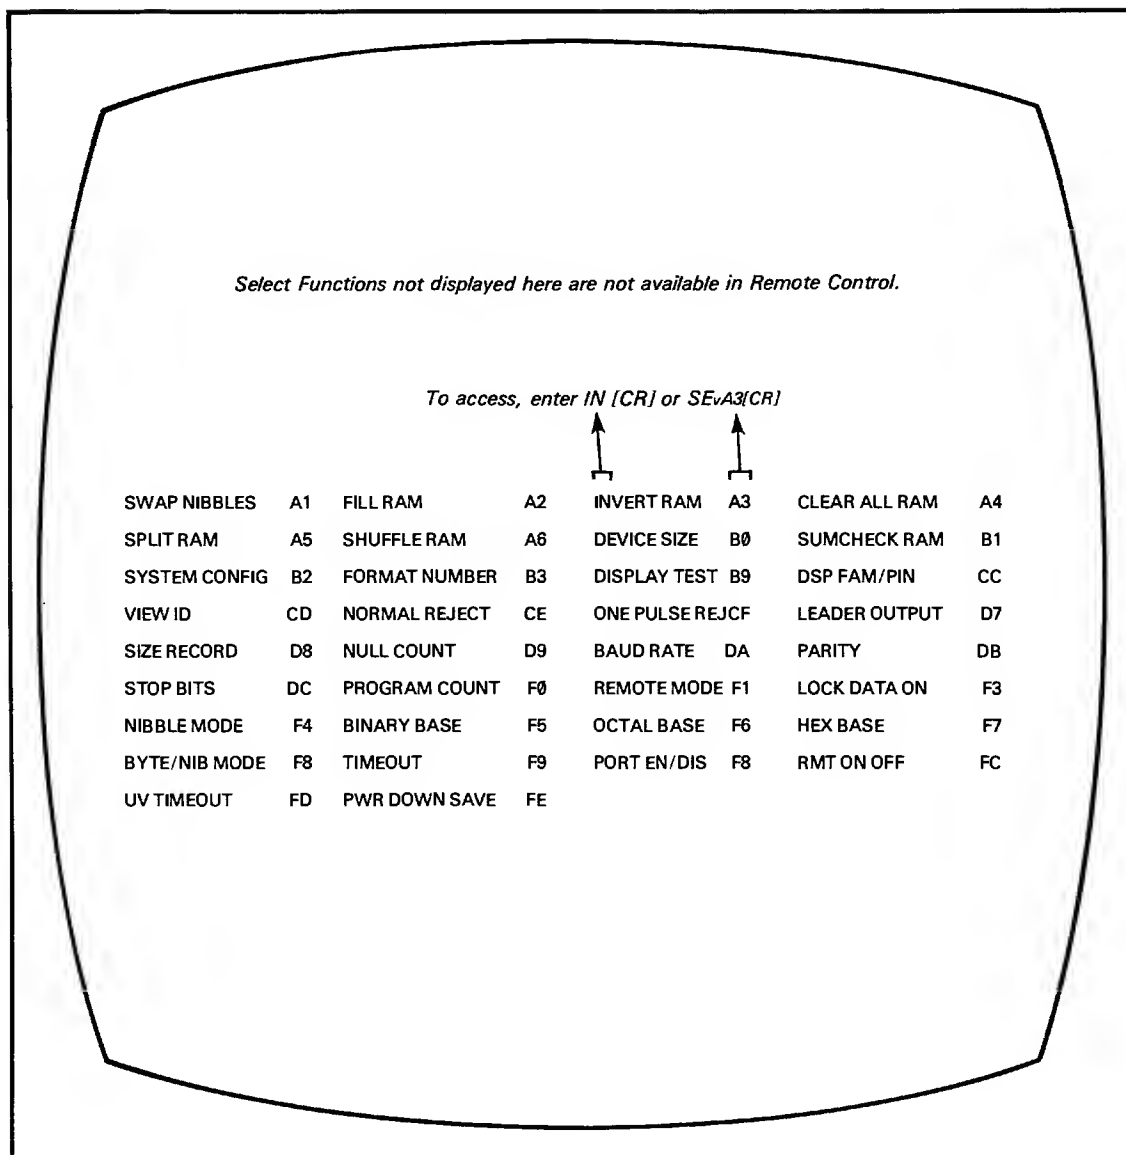

Figure 3-13. Select Function Menu in Remote Control
Figure 3-13 shows the Select Function menu.
- Entering the first two letters of the Select Function (as shown in Figure 3-13) followed by a [CR].